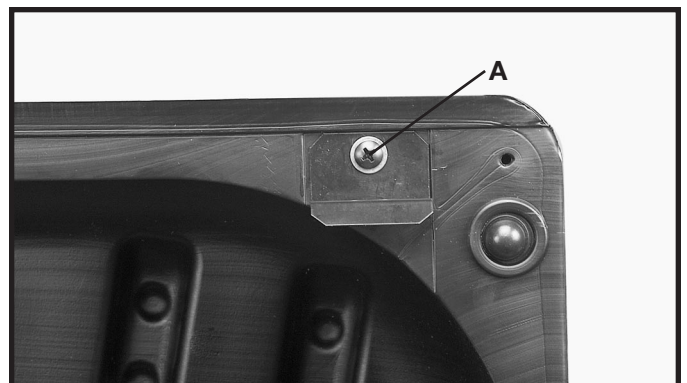

Fig. 33
1. Attach the two motor cover clips to the motor cover. Align the hole in the motor cover clip with the hole in the motor cover. Place a 13/64 flat washer onto a 10-32x1/2" screw (A), insert screw through the hole in the motor cover clip and thread screw (A) into the tapped hole in the motor cover, repeat this process for the remaining motor cover clip, Fig. 33.